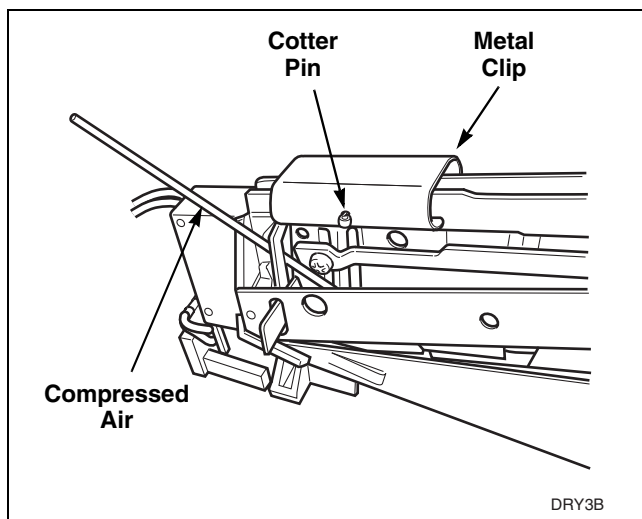

Figure 12
- If lint is preventing coins from rolling through coin drop, blow compressed air through coin entry and along the side of the coin drop. Refer to *Figure 12*.
- Remove cotter pin from top of drop. Refer to *Figure 12*. Save pin for reinstallation when cleaning is complete.
- Move metal clip closer to sensor so that it comes off frame. Refer to *Figure 12*.